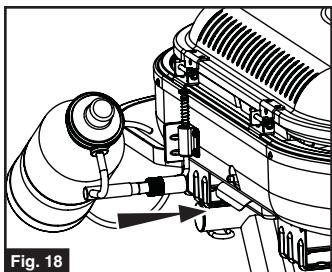

Fig. 18
- Screw regulator into grill hand tight. (Fig. 18)